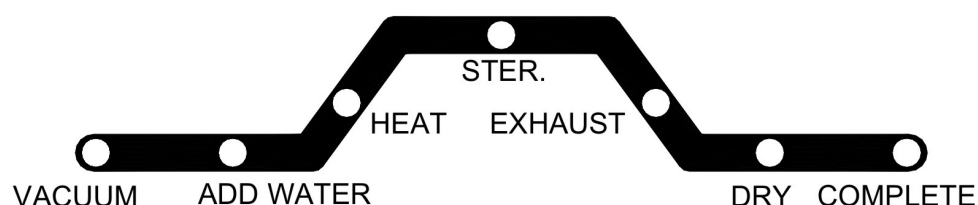

Figure 44
D. Press the **START** button, the setting temperature, duration, and dry time displayed two times on the three-digit display, and then the sterilizer will automatically run through the selected program. The current progress of the sterilization cycle is indicated by the illuminated LED on the Process Status Indicator. (Figure 44)